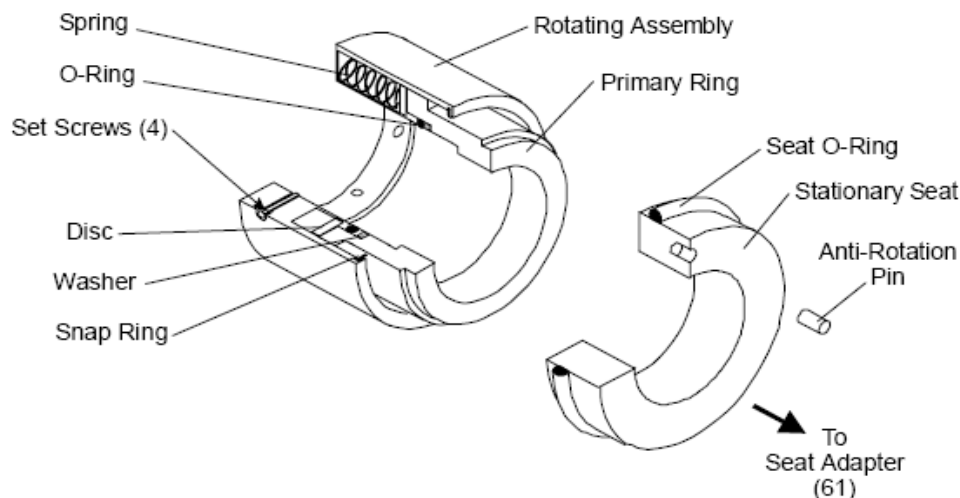

Figure 2 – Mechanical Seal (12) Details
1. Remove external tubing (30) from pump by loosening tube fittings (29).
2. Remove outboard bearing retainer bolts (8) and outboard bearing retainer (69) from outboard cover (21).
3. Remove outboard cover (21) by removing cap screws (6). Seal seat adapter (61) with seal stationary seal will come out with outboard cover (21).
4. Remove seal seat adapter (61) from outboard cover (21). Remove back up ring (35), if pump is 250 size, and O-ring (34) from seal seat adapter. Remove O-ring in ID of seal seat adapter. Remove back up ring (20), if pump is 250 size, and O-ring (3) from outboard cover (21).
5. Loosen set-screws holding the mechanical seal (12) on power rotor (10). See Figure 2 below. Slide mechanical seal (12) off power rotor. Remove shim (23) and retaining ring (22) from power rotor (10) shaft.
10. Disassemble power rotor as below see Figure 2 for mechanical seal details:
- a. With a flat blade screwdriver, carefully remove outer and inner Truarc retaining rings (15) located on both sides of bearing (14) from grooves of power rotor (10)
- b. Sealed ball bearing (14) is assembled to power rotor (10) with a light press fit. Ball bearing (14) may be removed by using a bearing puller or a vertical arbor press. When using press, two pieces of key stock are to be placed through openings of spacer (13) underneath ball bearing (49) on both sides of power rotor shaft. Key stock should be long enough to support power rotor (10) as it is placed in press. Press ram is to be positioned against power rotor (10) coupling end face. Gently press power rotor (10) through ball bearing (14). Ensure power rotor (10) does not fall to floor once ball bearing (14) is off of its diameter.
- c. Remove spacer (13) and seat adapter (61) with mechanical seal stationary seat from power rotor (10), Remove stationary seal seat and O-ring from inside of seal seat adapter and remove O-ring (34) and back-up ring (35), if pump is 250 size, from stationary seat (61) OD.
- d. Loosen the set-screws on mechanical seal (12). See Figure 2. Rotate seal and slide off shaft of power rotor (10).
11. Remove inboard cover (4) from case (1) by removing cap screws (6) or (63) if pump is a 187 or 200 size "K" mount type.
12. Remove O-ring (3) from inboard cover (4) and back up ring (20) if pump is 250 size.
13. If pump is a 250 size or a 187 or 200 size with a C –face mounting, remove shoulder bolt (40) from inboard cover (4).
14. Remove bushing (5) from inboard cover (4).
15. Remove housing (2) from case (1) through suction end and remove O-ring (3) and back up ring (2), if size 250.
1. Install O-ring (3) in groove in inboard cover (4). If pump is 250 size, install back-up ring (20) in onboard cover (4).
2. Install bushing (5) in inboard cover (4). If pump is 250 size or 187/200 C-face version, be sure to line up groove in bushing (5) with hole in inboard cover (4) and Install shoulder bolt (40) in inboard cover (4). Snug up shoulder bolt.
3. Assemble inboard cover (4) into case (1) using bolts (6) or (63) if pump is 187/200 size K-mount type. Be sure seal return drain (29) is facing vertically up. Torque bolts to value in torque table 3.
4. Install housing (2), O-ring end first, into suction side of case (1) until it butts up against stops on inboard cover (4). Idler bores in housing (2) must be installed approximately horizontal with respect to the centerline of the pump.
5. Assemble Power rotor (10) and mechanical seal (12) as follows. See Figure 2 mechanical seal detail:
- a. Install mechanical seal (12) rotating assembly on power rotor (10) shaft until it contacts rotor balance piston. Tighten set screws.
- b. Install O-ring (this O-ring comes with the seal) in groove on the ID of seal seat adapter (61) and install O-ring (34) in groove on OD of seal seat adapter (61) (If pump is an AE3D-250, this O-ring comes with the seal. On any other pump, this O-ring is separate from the seal). If pump is 250 size, install back up ring (20) in groove on OD of seal seat adapter (61)
- c. Install mechanical seal (12) stationary seat in seat adapter (61) ensuring that anti-rotation pin is properly engaged. Wipe mechanical seal rotating and stationary faces with a clean, lint free cloth before assembling faces together.
- d. Install assembled seal seat adapter (61), with stationary seat, to power rotor shaft in contact with to mechanical seal rotating face.
- e. Install spacer (13) on power rotor (10) shaft behind seal seat adapter (61) and then install inner truarc ring (15) in groove in power rotor (10).